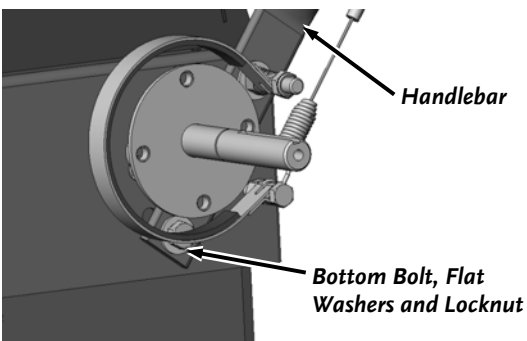

Figure 27
3. Remove the bottom Bolt, Flat Washers and Locknuts from both Handlebars with two 9/16" Wrenches and just loosen the upper Hardware (**Figure 27**).